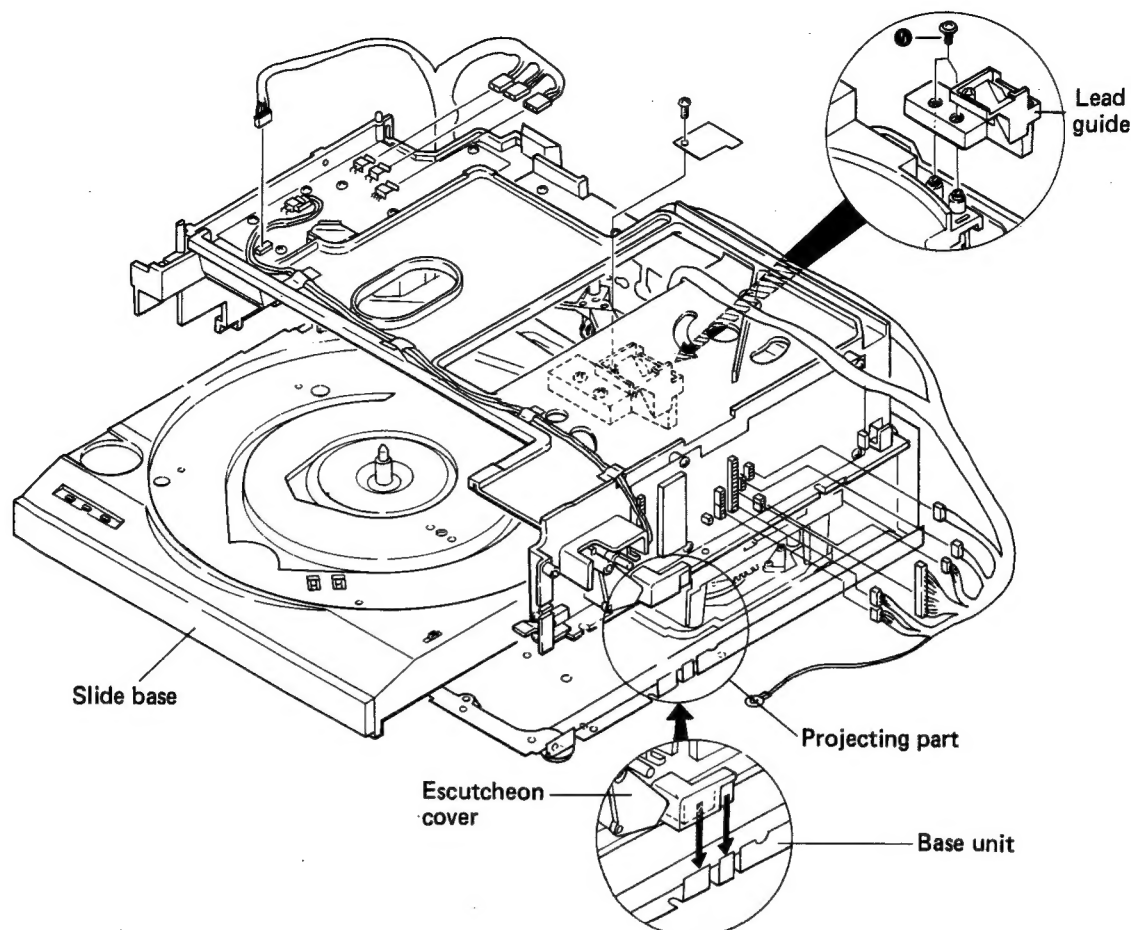
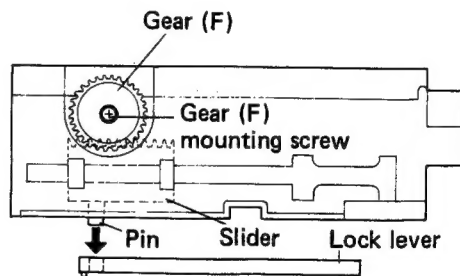

Fig. 1-3 Disassembly 2
Fig. 1-4 Mounting the escutcheon cover
Disconnect all connectors shown in Fig. 1-3 at this time. And since the tonearm is pushed backwards with considerable force, be especially careful when removing the escutcheon cover.
2. Replace the escutcheon cover so that the sides slip over the projecting parts of the base, and then secure (Fig. 1-3). Check that the slider pin has entered the lock plate hole at this time (see Fig. 1-4).